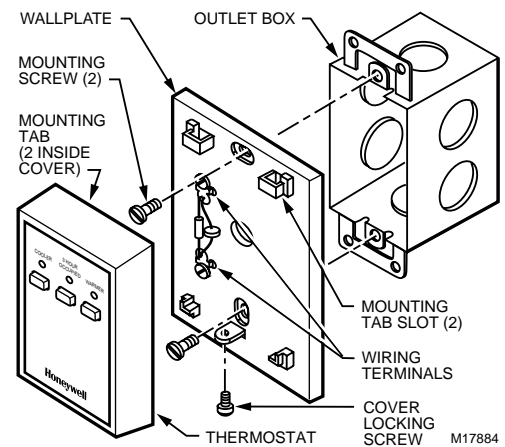

Fig. 3. Mounting the T7147.
8. Fasten the T7147 to the wall or outlet box with screws through the T7147 base assembly mounting holes. (See Fig. 3).